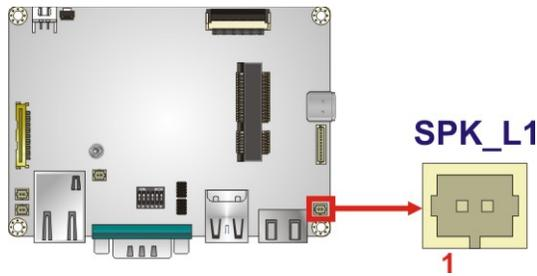

Figure 3-16: Speaker Connector Pinouts
- CN Location:** See **Figure 3-16**